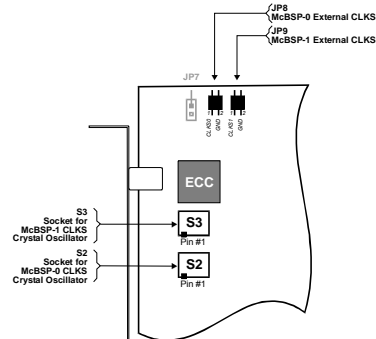

Fig. 2-18a. McBSP-0/McBSP-1 external serial clock connectors and crystal oscillator sites at *TORNADO-P62/P67* mainboard.
- from external source via on-board JP8 (for McBSP-0 port), JP9 (for McBSP-1 port) and JP10 (for McBSP-2 port for **TORNADO-P6202/P6203/P64xx** DSP systems only) connectors (refer to fig.2-2, fig.2-18a and fig.A-1)